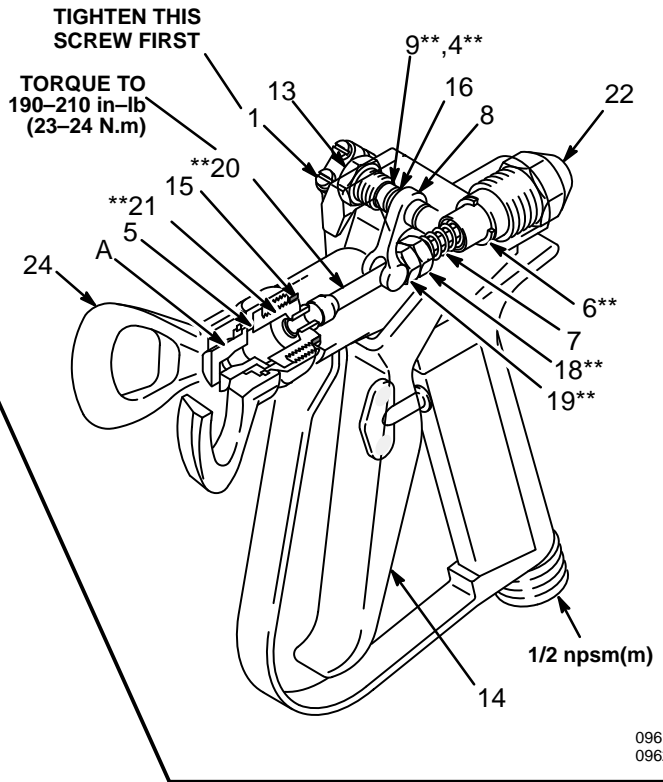

Fig 5
## Gun Repair (See Fig 5 except where noted)
13. Position the forks of the trigger clamps over the cam shaft. Install the screws, tightening the inner ones first as indicated in Fig 5.
14. **Using the same number of turns noted in Step 4,** install the adjusting nut (19\*\*) and then the lock-nut (18\*\* or 19 as shown in Fig 5) on the needle.